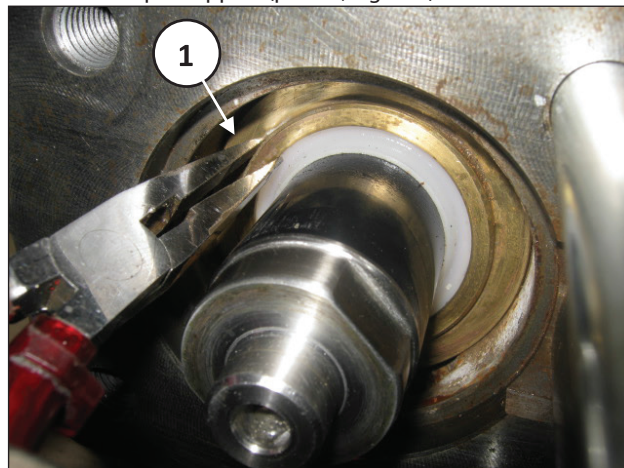

Fig. 123
Extract the wiper support (pos. ①, Fig. 123).